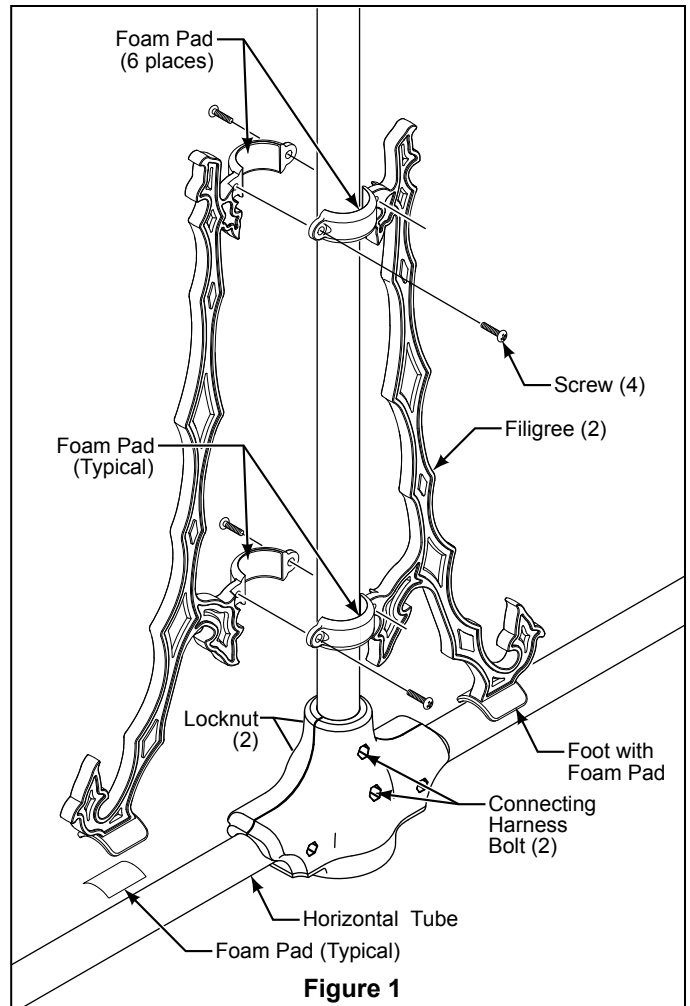

Figure 1
1. Attach foam pads as shown (Figure 1).
3. Repeat this process for the bottom holes (Figure 1).